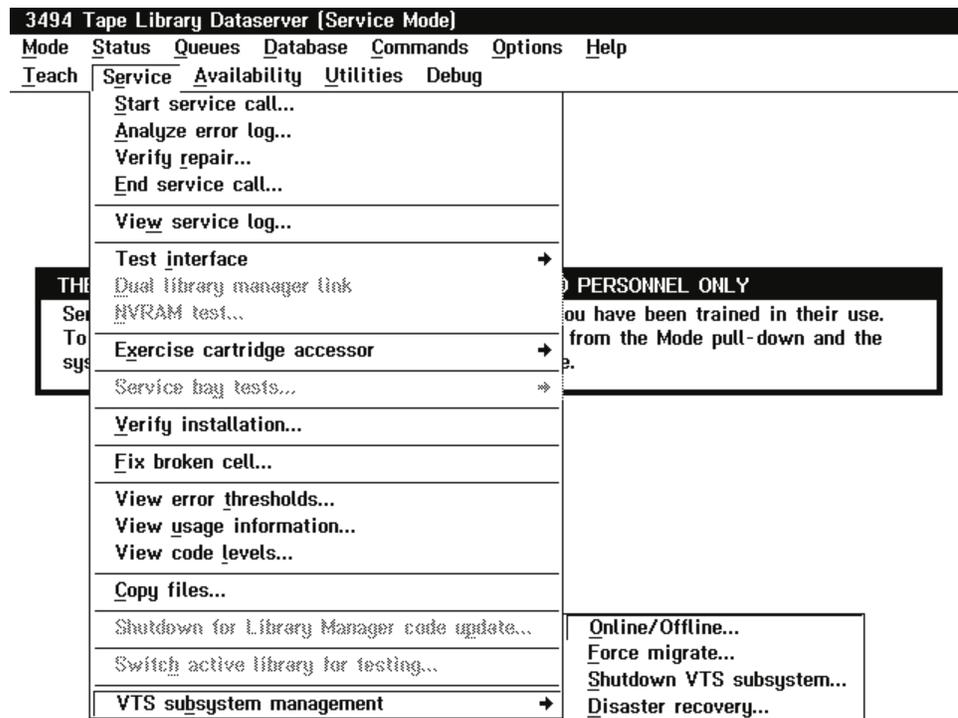
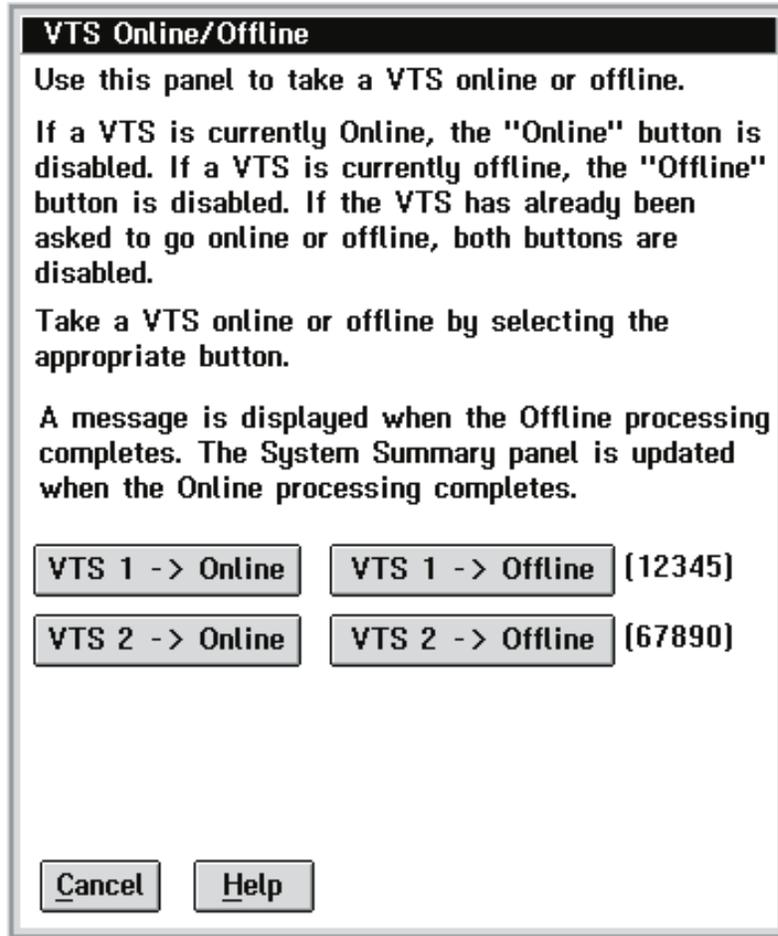

Figure 111. Service Pull-Down
Figure 112. VTS Online/Offline Window
3. From the Service pull-down (Figure 111 on page 181), select **VTS subsystem management**, then select **Online/Offline...** to display the VTS Online/Offline window (Figure 112 on page 182).